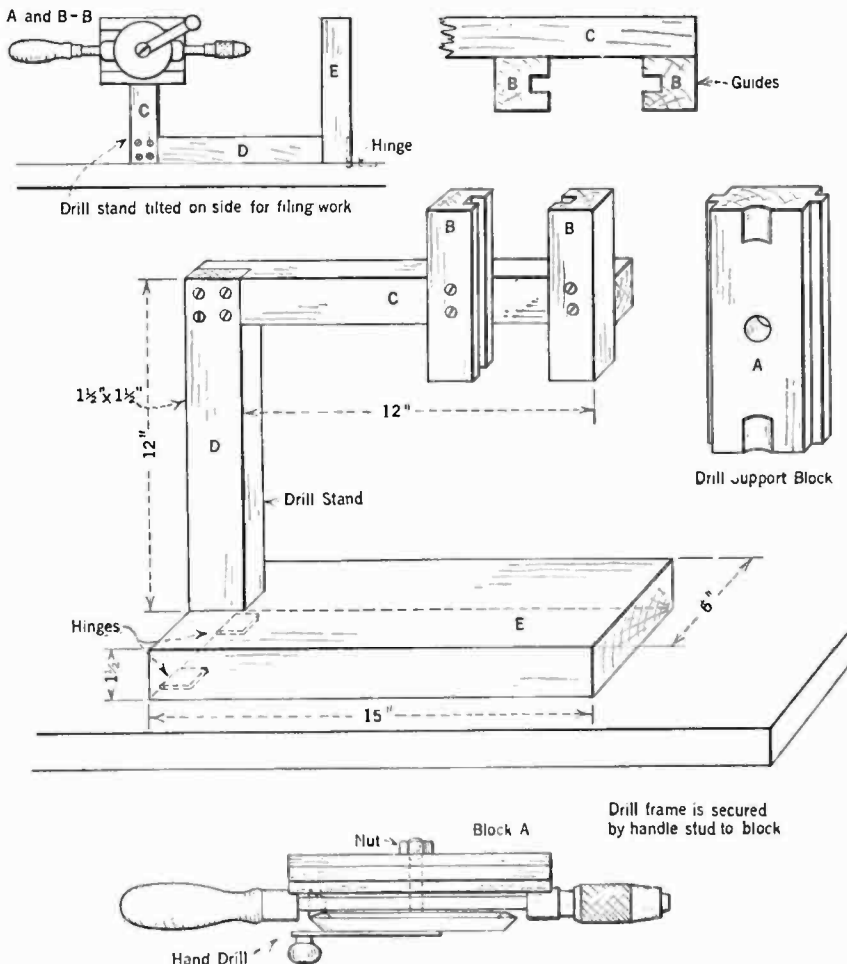

FIG. 1
**T**HE amateur mechanic, interested in obtaining additional service from a limited number of tools, will find in the wooden stand fixture illustrated in Fig. 1, a means for obtaining a wide extension of use from the hand type of machinist's drill.